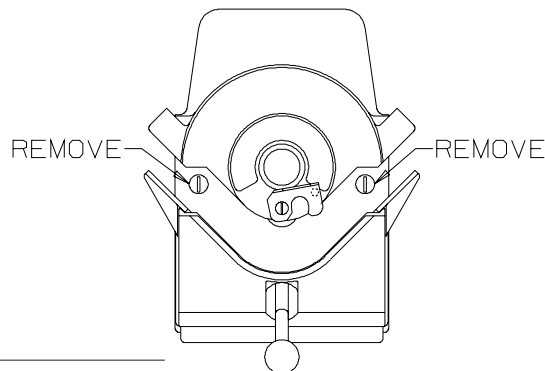

Figure 9-1
3. Remove the two screws located inside the hose cavity. See Figure 9-1.